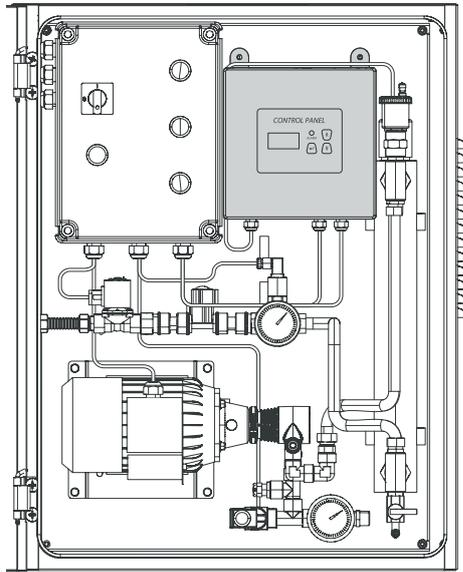

Fig. 9.a
On models where featured, a UV lamp for disinfecting the water is installed on the unit, powered and managed by its own electrical panel (Fig. 9.a):
The lamp electrical panel (Fig. 9.a) cannot switch on or off independently with respect to the unit, as it does not have its own power button; nonetheless, the lamp can be switched off in one of the ways shown below:
- pressing the OK button (2 - Fig. 9.b) on the control panel (Fig. 9.b) for 5 seconds;